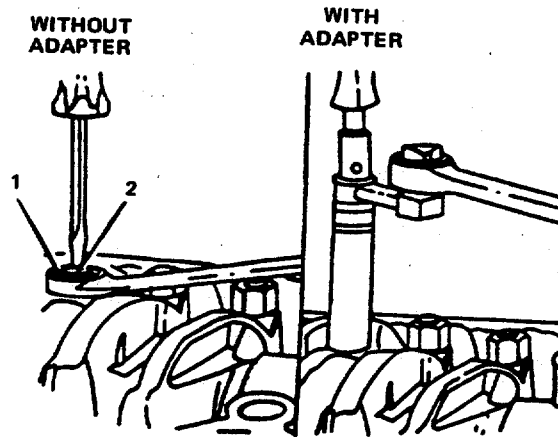

FIGURE 2-41. Holding the Adjusting Screw.
- (k) Loosen the locknut (1, FIGURE 2-41) on the injector adjusting screw.
- (l) Turn the adjusting screw (2) clockwise or counterclockwise to adjust the injector plunger to 0.228 inches on the dial indicator reading.
- (m) Hold the adjusting screw (2) in this position. The adjusting screw (2) must not turn when the locknut (1) is secured. Tighten the locknut (1) to 40 ft-lb torque without adapter, 35 ft-lbs with torque wrench adapter P/N ST-669 (1).